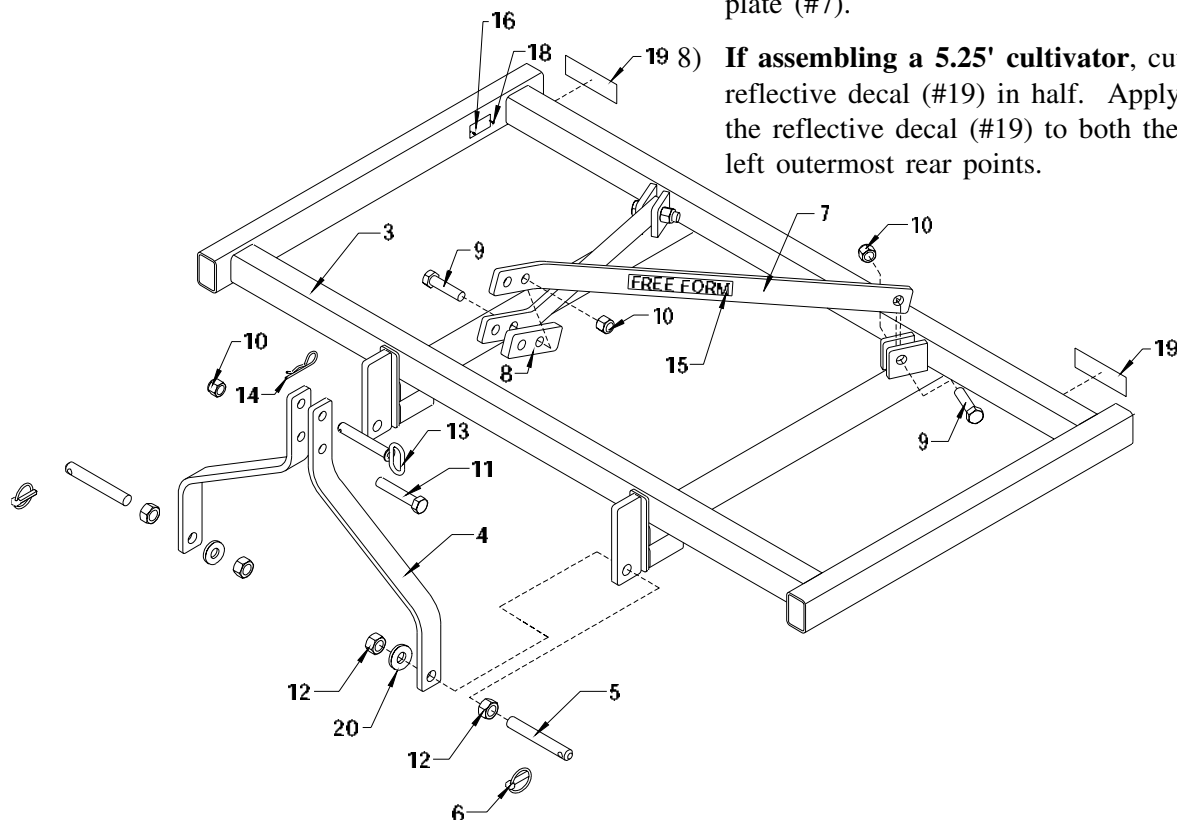

Figure 2.1 - Hitch Assembly
Refer to Figure 2.1.
Refer to Figure 2.1 for orientation of the 7/8" pin (#5).
- 3) Bolt the bent plates (#7) and the ¾"x2"x5½" spacer plate (#8) together, through their rear holes, with a ¾"x3" bolt (#9) and a ¾" locknut (#10). Refer to Figure 2.1 for orientation of the ¾"x2"x5½" spacer plate (#8). (The blank end should be towards the rear of the frame.)